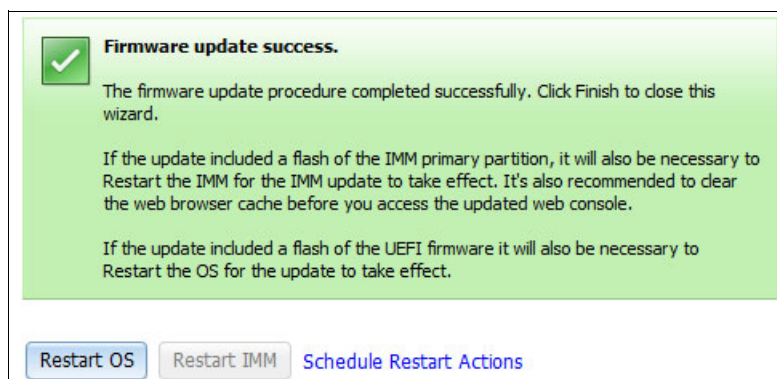

Figure 6-25 “Firmware update success” message
6. A progress bar shows firmware update status. When the update is complete, the “Firmware update success” message is displayed, as Figure 6-25 shows.